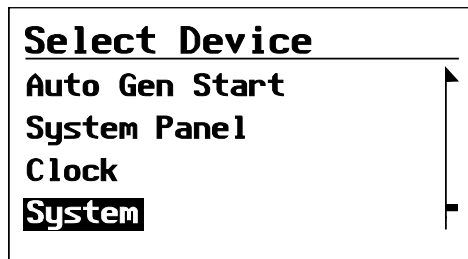

Figure 4-1 Selecting the System menu
1. On the Select Device menu, use the down arrow button to highlight System (see Figure 4-1).